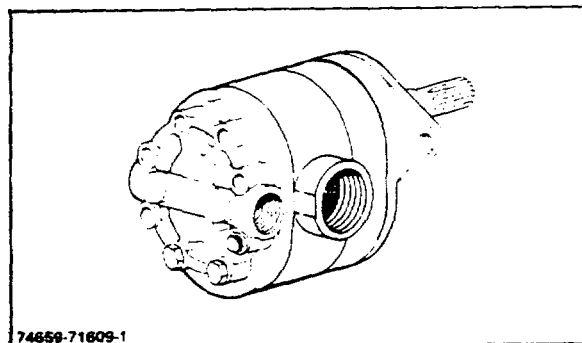

Figure 3-1. Hydraulic Pump - Type II
4. Remove attaching hardware and separate pump from pump motor by pulling pump shaft out of armature shaft (Fig 3-1).